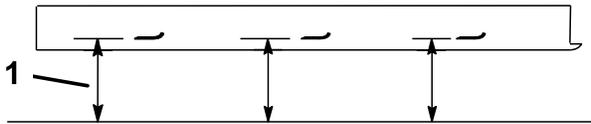

Figure 54
2. Measure from a level surface to the cutting edge, position A, of the blades (Figure 54). Note this dimension.